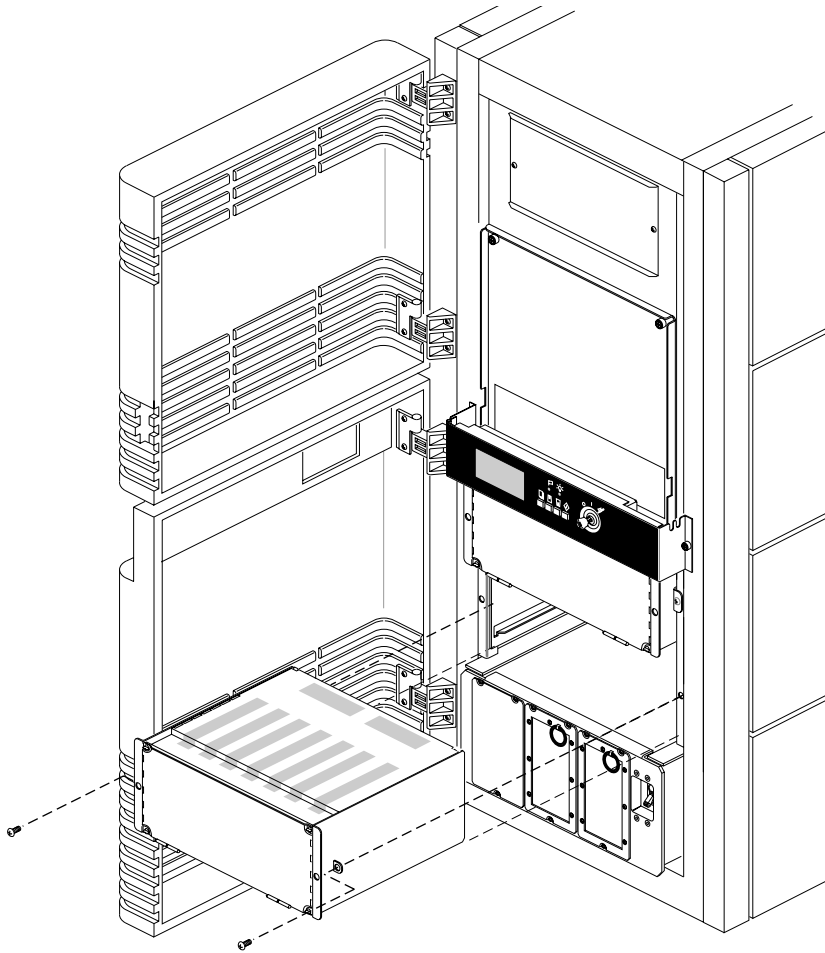

Figure 3-1 Installing the Optional RAID SCSI Drive Box
4. Slide the RAID box into the enclosure until the flange on either side of the box contacts the system chassis. Fasten the box in place with one screw on each side. See Figure 3-1 for an example.